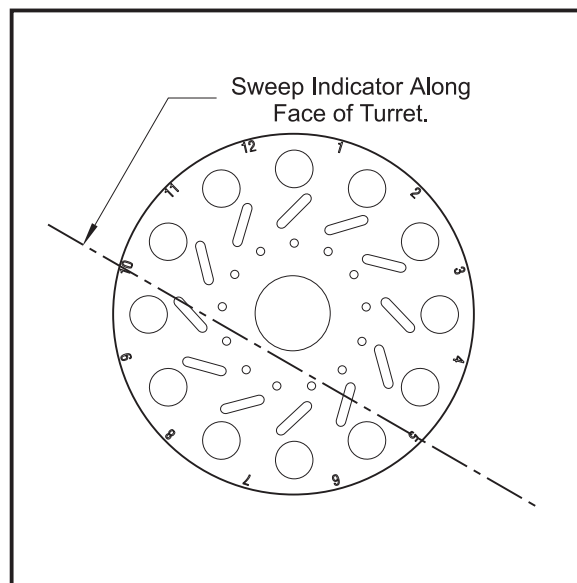

Figure 3-2. Turret alignment verification (X-axis)
3. Place the magnetic indicator base on the spindle retainer ring. Position the indicator tip on the turret face so there is at least 3.5" of travel in each direction from the center of the X axis and 1/4" below the center cap. Refer to Figure 3-2.